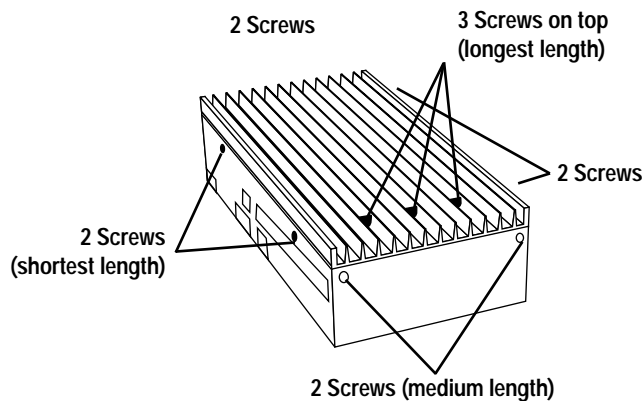

Figure 3 - CASE SCREWS
3. With a medium-sized Phillips screwdriver, remove the eight screws at the perimeter of the case and the three screws that connect the heat sink to the internal heat bar, keeping track of which screws go where. See Figure 3.